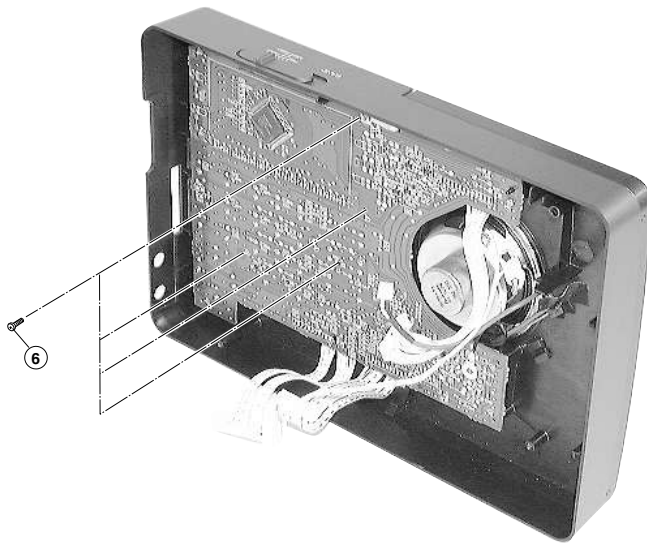

Fig. 5
- (1) Remove 6 screws ⑰ from the Insulator pad.
4. Removal of Main Board (Fig. 5)